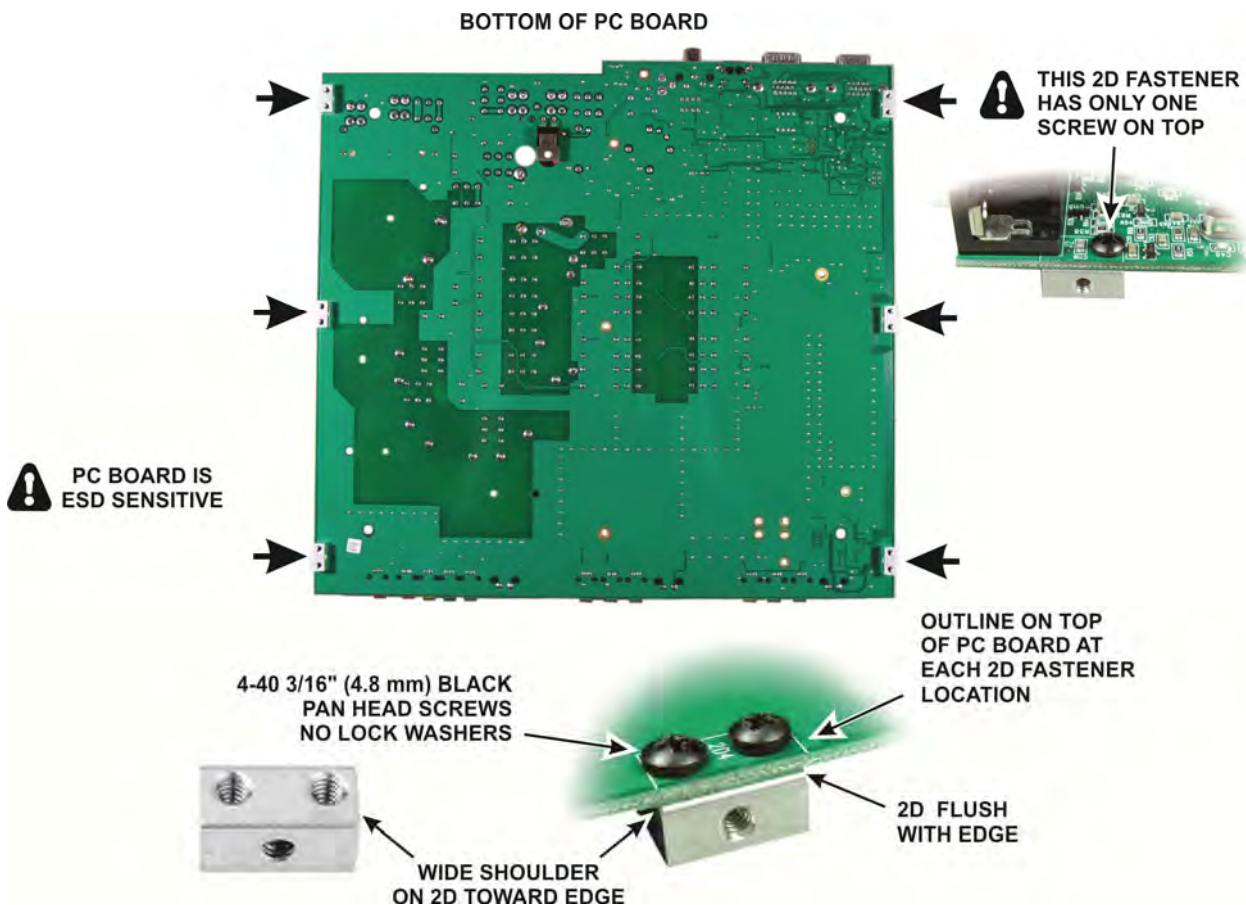

Figure 7. Installing the 2D Fasteners.
- Taking ESD precautions remove the printed circuit board from its ESD-safe envelope and install six 2-D fasteners as shown in Figure 7. Be careful not to disturb any of the inductors on the top side, especially the air wound coils, or the position of the resistor mounted on the bottom.
- The 11 screws along the sides of the pc board (Figure 7, page 24).